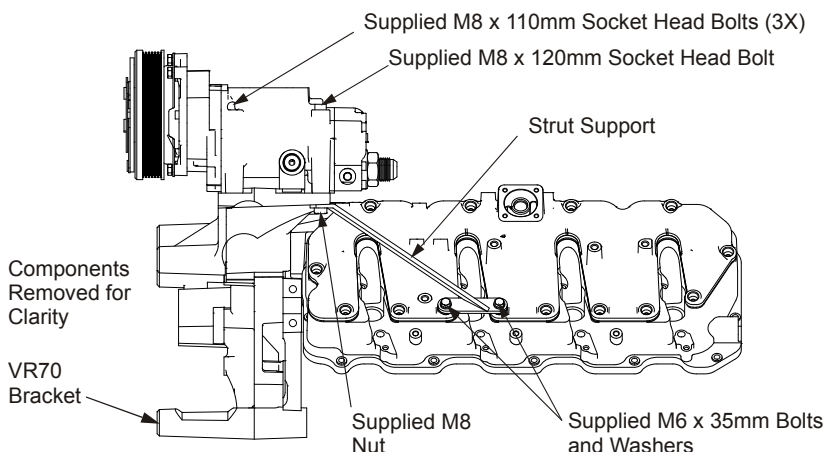

Figure 5.7
- ☐ Remove the two OEM driver side upper rocker arm cover bolts (Figure 5.7).
- ☐ Apply Loctite to the M6 x 35mm bolts and the M8 nut and install the strut support (Figure 5.7). Torque the two M6 bolts to 71 in-lbs.